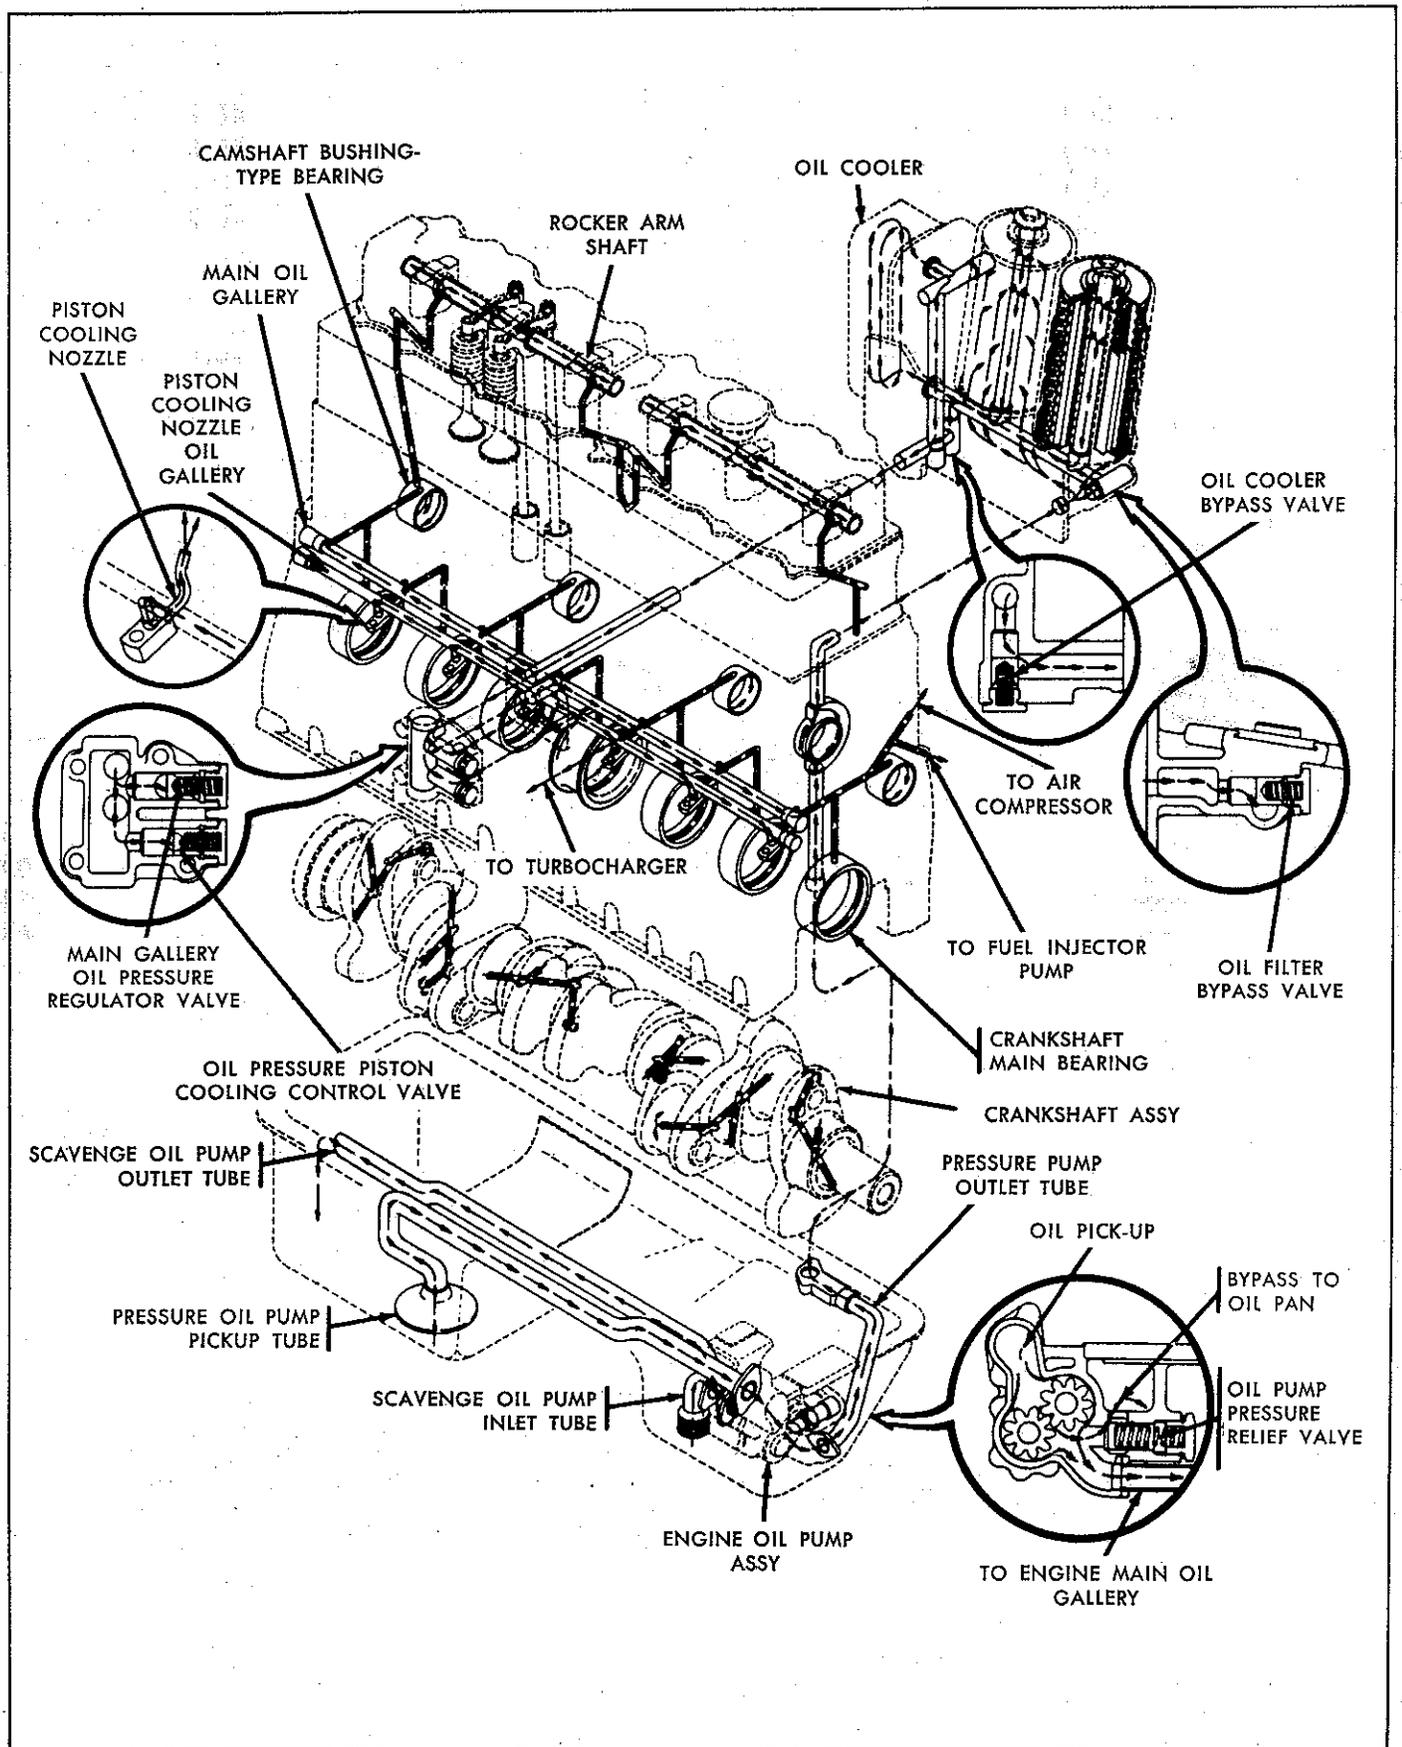

Figure 2. LDS-465-1 Engine Lubrication System Diagram
d. Lubrication System. (Figure 2) The LDS-465-1 engine incorporates a full-pressure lubricating system. The design of the oil pan, in conjunction with a scavenge pump system, ensures a continuous supply of oil to the pressure oil pump pickup even at extreme attitudes of engine operation. The crankshaft main bearings and the camshaft bearings are lubricated through passages in the engine block. An annulus in each main bearing provides an oil supply to each crankpin bearing. A drilled passage within the crankshaft cheek feeds oil to the no-load side of crankpin journal.